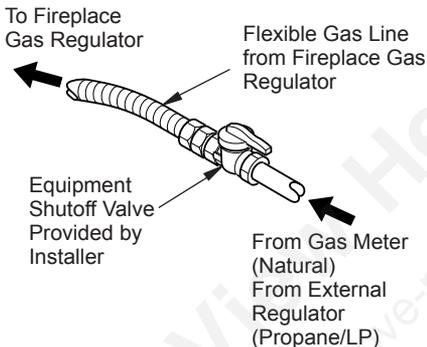

Figure 26 - Attaching Gas Lines Together
NOTICE: Most building codes do not permit concealed gas connections. A flexible gas line is provided to allow accessibility from the fireplace (see Figure 26, page 19). The flexible gas supply line connection to the equipment shutoff valve should be accessible.
3. Attach the flexible gas line to gas supply (see Figure 26). Check tightness of flexible gas line attached to gas regulator of fireplace (see Figure 26).